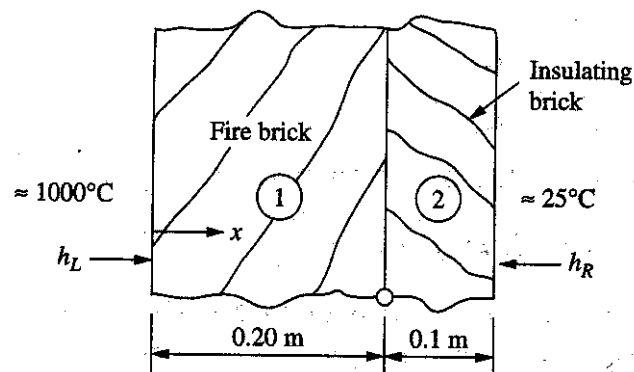

Figure 8
- Q8) A composite wall shown in Figure 8 is composed of two homogeneous slabs in contact. Let thermal conductivities be $K1 = 1 \text{ W}/(\text{m}^\circ\text{C})$ for firebrick slab 1 and $K2 = 0.3 \text{ W}/(\text{m}^\circ\text{C})$ for insulating slab 2. The left side is exposed to an ambient temperature of $T_{\infty L} = 1000^\circ\text{C}$ inside the furnace with heat transfer coefficient of $hL = 10 \text{ W}/(\text{m}^2^\circ\text{C})$. The right side ambient temperature is $T_{\infty R} = 25^\circ\text{C}$ outside of the furnace with heat transfer coefficient of $hR = 3 \text{ W}/(\text{m}^2^\circ\text{C})$. The thicknesses of the slabs are $L1 = 0.20 \text{ m}$, and $L2 = 0.10 \text{ m}$. Determine the temperature at the left edge, point between the two slabs and right edge of the composite wall.